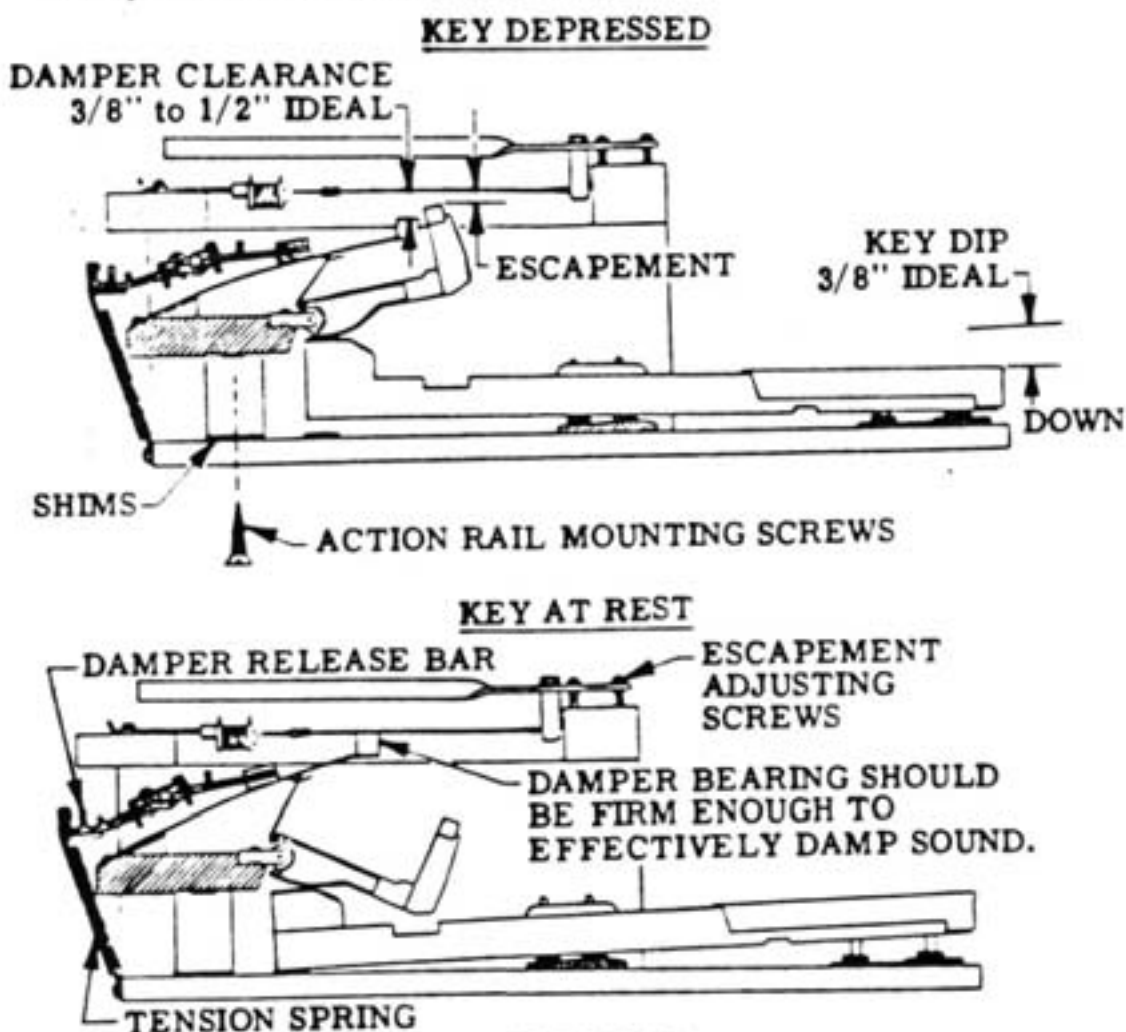

FIGURE 19
1. **Key Dip.** Key dip and Hammer travel are controlled by the height of the Action Rail (Figure 19). Key dip is the term used to describe the downward limit of travel of the Key when depressed.  $3/8''$  is ideal. This is controlled by means of shims placed between the Action Rail and the Key Frame. To adjust, remove the entire Action from the box. Along the back of the Key Frame under the Action Rail will be five wood screws. Remove these, then either remove shims or add shims depending upon whether you wish to reduce or increase the Key dip.
2. Damper Control. The Damper ideally clears the Tine by at least  $\frac{3}{8}$ " to  $\frac{1}{2}$ " when the Key is depressed. Conversely, when the Key is at rest, the Damper should bear firmly on the Tine in order to effectively damp the sound. (See Figure 19).
- d. With the same needle-nose pliers, drop the Tension Spring (Figure 19).